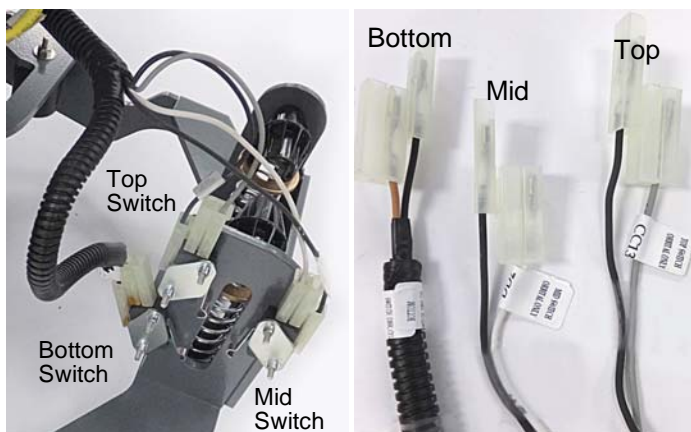

Fig. 8
9. Connect the machine's brush pressure electrical harness connectors to the lift bracket switches as shown (Figure 8). The connectors are labeled, TOP SWITCH, MID SWITCH and BOTTOM SWITCH.